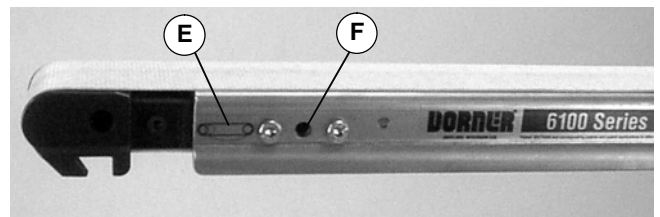

Figure 2
2. On tension end of the conveyor identified with a  label (E Figures 2 & 3), insert a 5 mm hex key wrench to engage pinion gear (F of Figure 2).
10. Insert a 5 mm hex key wrench to engage pinion gear (F of Figure 2).
**NOTE:** On pinion gear (F of Figure 2), do not exceed a torque of 25 in-lb (2.8 Nm) for 2" to 12" (44 mm to 305 mm) wide conveyors and 40 in-lb (4.5 Nm) for an 18" (457 mm) wide conveyor. Over-tensioning the conveyor belt could cause excessive pulley bearing load and early failure.
11. With V-guide seated in pulley, rotate the pinion gear (F of Figure 2) counter-clockwise to sufficiently tension the belt to handle the conveyor load.